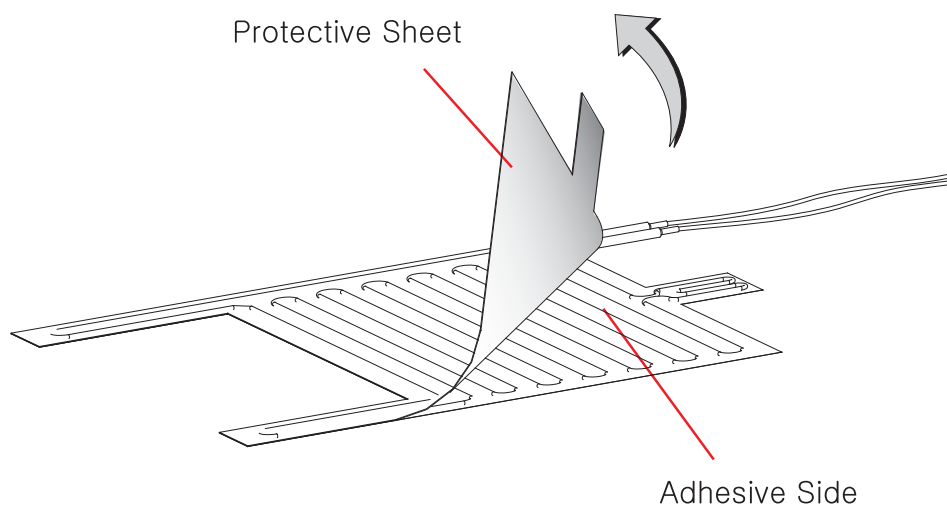

Fig 9-23
7. Remove the protective sheet of the new drain pan heater and uniformly spread it onto the bottom. (Fig 9-23)